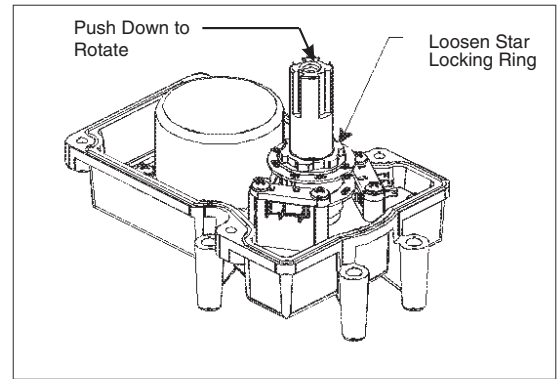
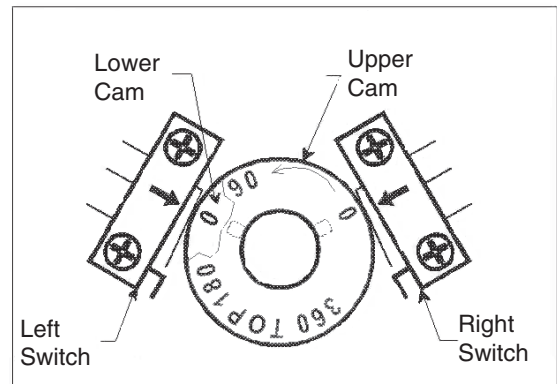

Figure 4. Cam Adjustment
Figure 5. Cams
2. Remove the four screws and actuator lid to locate the cam/motor compartment. See Figure 4 to observe the cam.
3. Push down and rotate the actuator shaft (see Figure 4) so the 0 degree mark lines up with the arrow on the switch housing - ing and the bottom cam lines up with the arrow as shown in Figure 5.
4. Refer to the Cam Adjustment Table below to find the proper cam settings and then loosen the locking nut 1/4 turn coun - terclockwise and line up the specified marking on the cams with the arrows on the switch housings to reset the cams. See Figure 5.